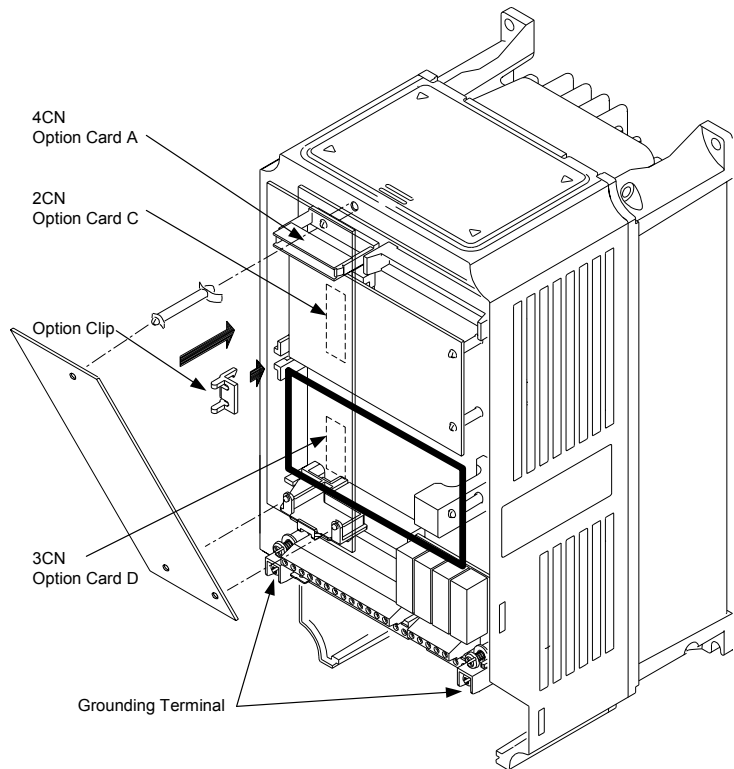

Figure 1. DO-08 Option Card installation
5. **Circuit Board Installation:** See Figure 1.